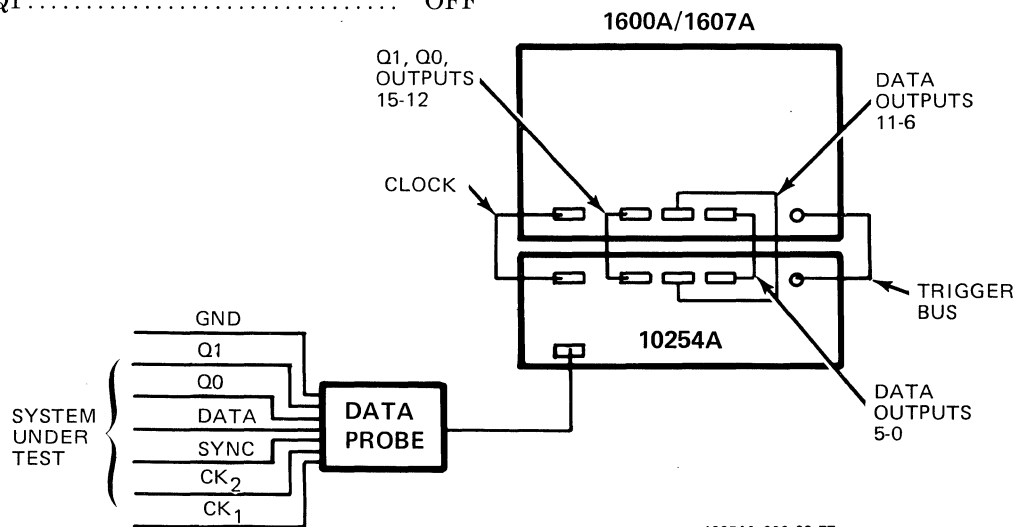

Figure 6. General Operating Setup
42. Figure 6 shows a general operating setup for the 10254A. The following steps provide a general operating procedure for the 10254A.
e. Connect data probe leads to circuitry under test (See figure 6).